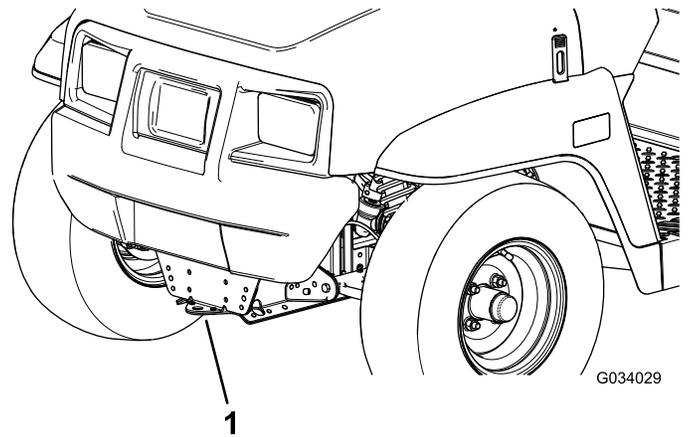
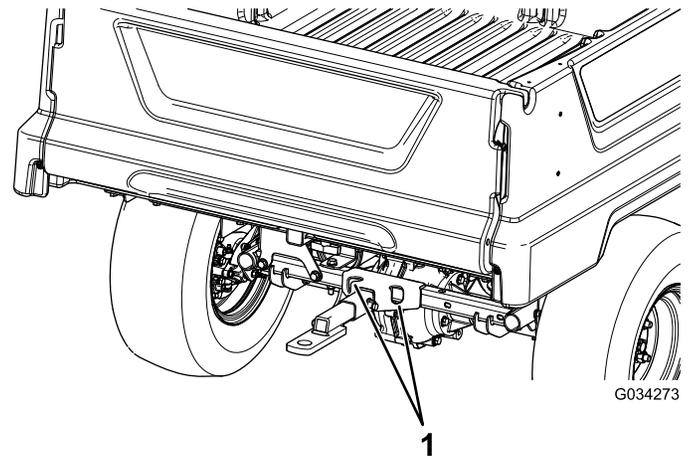

Figure 21
Figure 22
Use a trailer with full-width ramps to move the machine a long distance. Ensure that you secure the machine to the trailer. Refer to Figure 21 and Figure 22 for the tie-down locations on the machine.
2. Affix a tow line to the tongue at the front of the machine's frame (Figure 21).